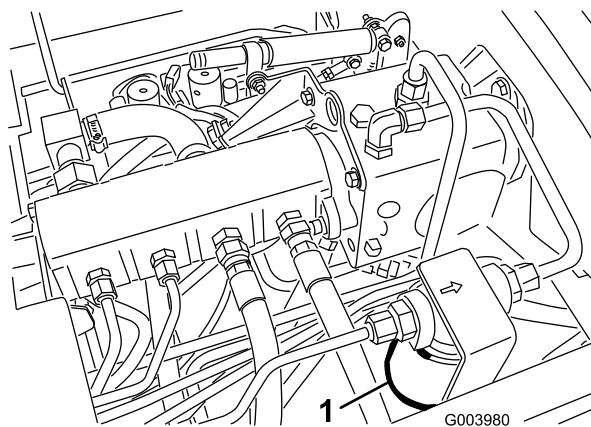
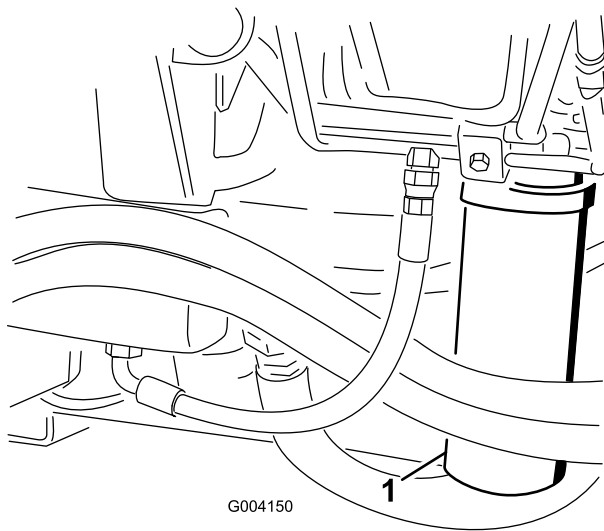

Figure 69
Figure 70
2. Clean the area around the filter mounting area and place a drain pan under the filter (Figure 69) and (Figure 70).